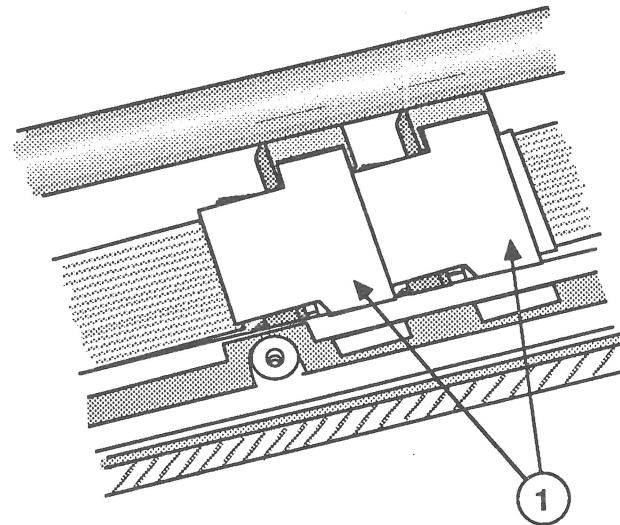

FIGURE 16
3. Remove the two flexible PCB holders (Figure 16, #1) by pulling the holder up from the center.